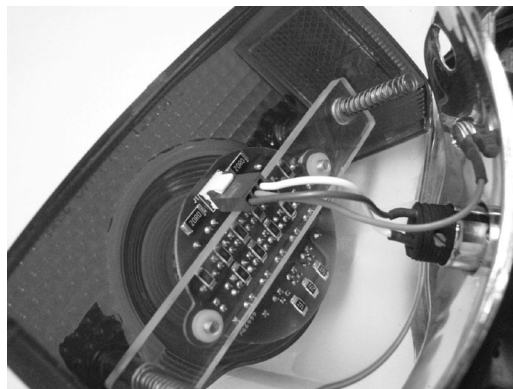

Figure 7
5. Carefully bring the lens assembly close enough to plug-in the bayonet cable assembly into the header connector on the LED Board as shown in Figure 7. Firmly push the connector onto the header until it's firmly seated. Mate the lens to the reflector plate; firmly squeeze the lens to plate before removing the tape to start the screws. Once both screws have been started, tighten them to secure the lens, be careful not to over-tighten them, otherwise they will be damaged. Your LED Taillight is now ready for use.